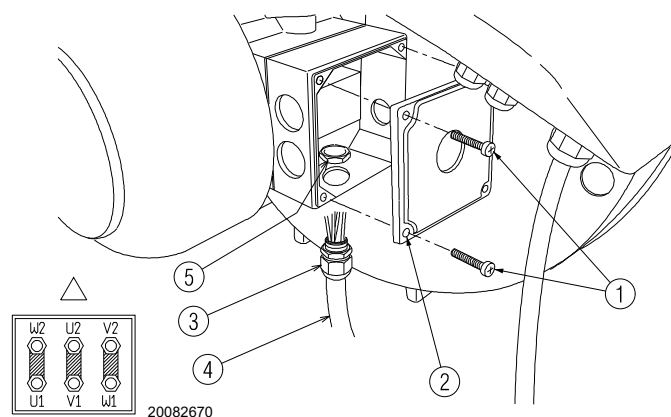

Fig. 26
- to access the motor casing, loosen the four screws 1)(Fig. 26) and remove the cover 2);
- install the cable 4) with its relative coupling on the motor casing, fixing it carefully in place with the ring nut 5)(Fig. 26);
- make a final visual check, then close the motor casing by tightening the 4 screws 1)(Fig. 26).